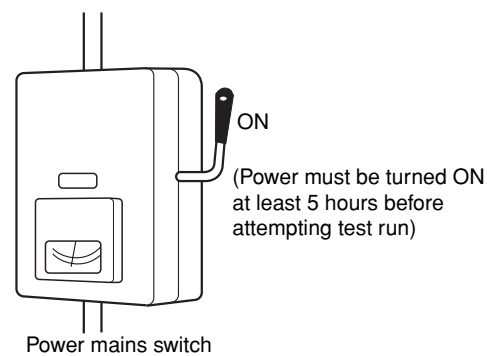

Fig. 11-1
- (1) All loose matter is removed from the cabinet especially steel filings, bits of wire, and clips.
- (2) The control wiring is correctly connected and all electrical connections are tight.
- (3) The protective spacers for the compressor used for transportation have been removed. If not, remove them now.
- (4) The transportation pads for the indoor fan have been removed. If not, remove them now.
- (5) The power has been supplied to the unit for at least 5 hours before starting the compressor. The bottom of the compressor should be warm to the touch and the crankcase heater around the feet of the compressor should be hot to the touch. (Fig. 11-1)